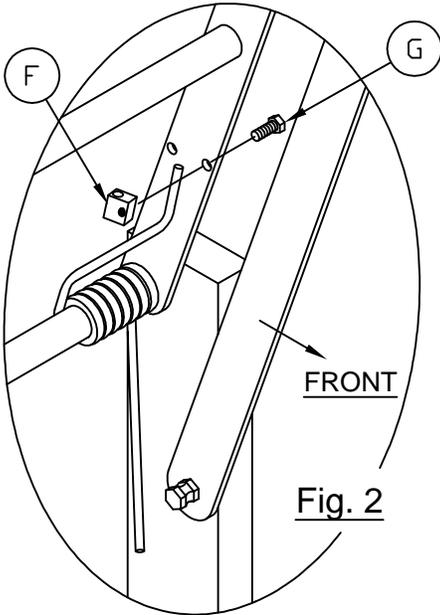

Fig. 2
Place the tension cube in the same position on both sides. Attach with Hex Head Screw (G). Fig. 2